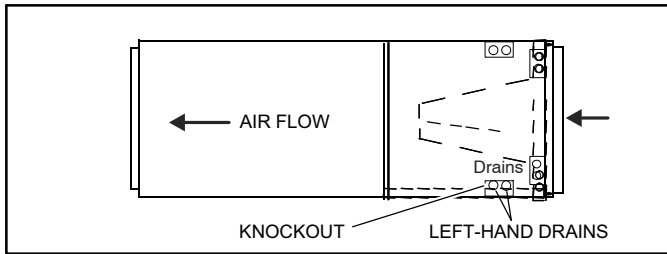

Figure 4. Left-Hand Discharge Configuration
5. The horizontal configuration is shown in figure 4.